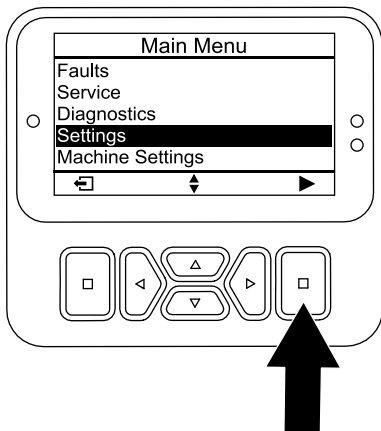

Figure 27
1. From the MAIN MENU, scroll down to the SETTINGS menu and press the select button (Figure 27).